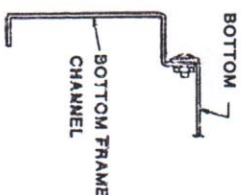

FIGURE 1.4
- 1.7 PUSH THE BOTTOM ONTO THE HOOKS OF THE SIDE ADJUSTMENT STRIPS AND OPEN THE TOP FLANGE OF THE BOTTOM FRAME CHANNEL. LINE UP THE HOLES AND BOLT TOGETHER. (FIG. 1.4)